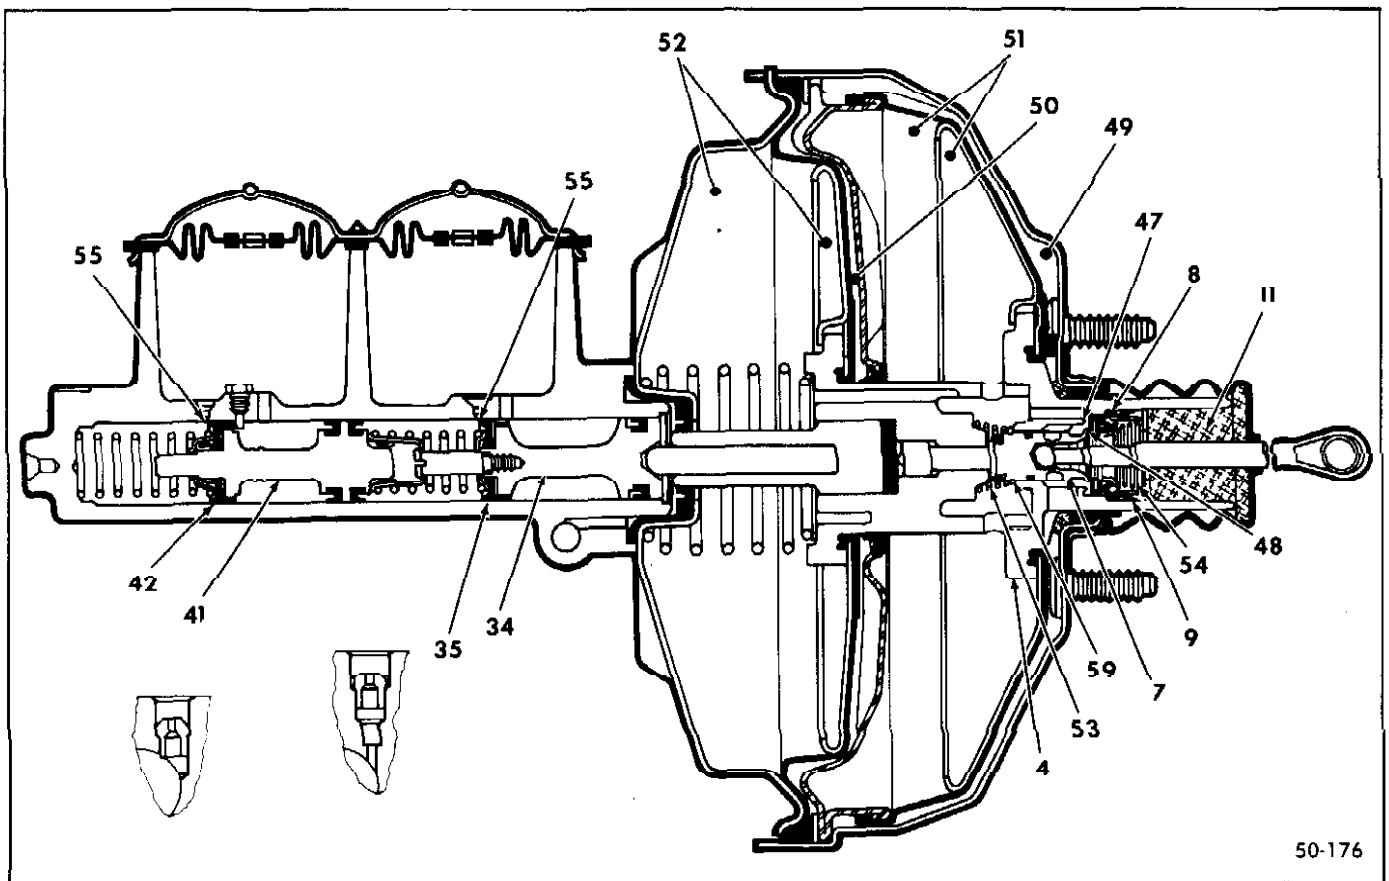

Figure 50-69 Released Position
floating control valve from seating on the primary power piston at Point (47). The floating control valve assembly (8) is held against the air valve seat by the floating control valve spring (54). Air, under atmospheric pressure, which enters through the filter element (11) in the tubular section of the primary power piston (4) is thus shut off at point (48). See Figure 50-69.